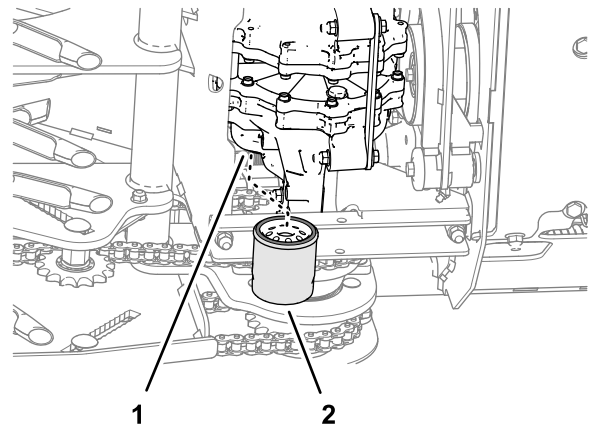

Figure 54
4. Locate the 2 filters under the transmissions (Figure 54).
6. Remove the filters to and allow the fluid to drain from the drive system (Figure 54).
2. Turn the filter clockwise until rubber seal contacts the filter adapter, then tighten the filter an additional 2/3 to 3/4 turn (Figure 54).